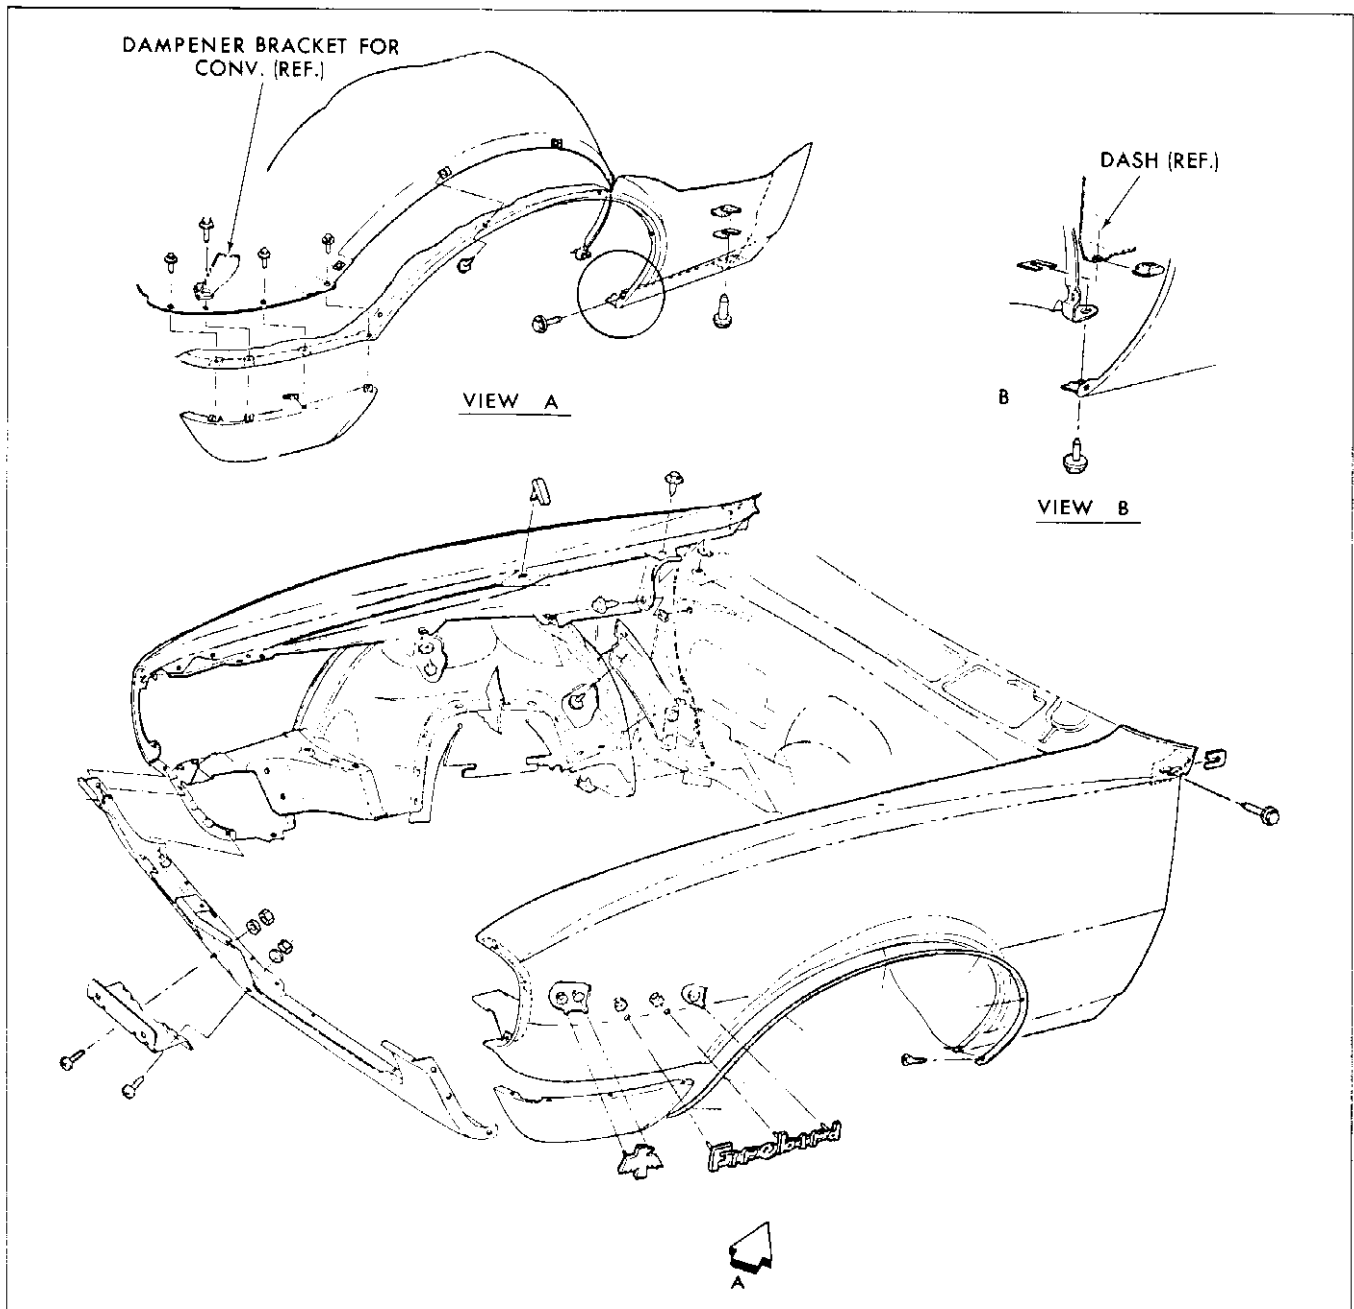

Fig. 11-2 Front Fenders and Skirt
Vertical, fore, aft and lateral adjustment is provided at the rear of fender by enlarged holes at attaching points, and the use of shims at these points (Fig. 11-2).
1. Remove front fender (Fig. 11-2).